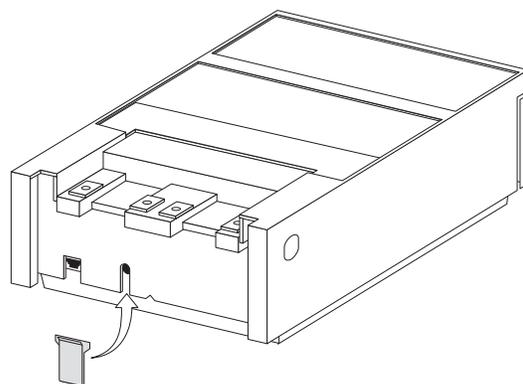

Figure 16. Removing the security clip (compact cash drawer)
4. Remove the security clip (see Figure 16).